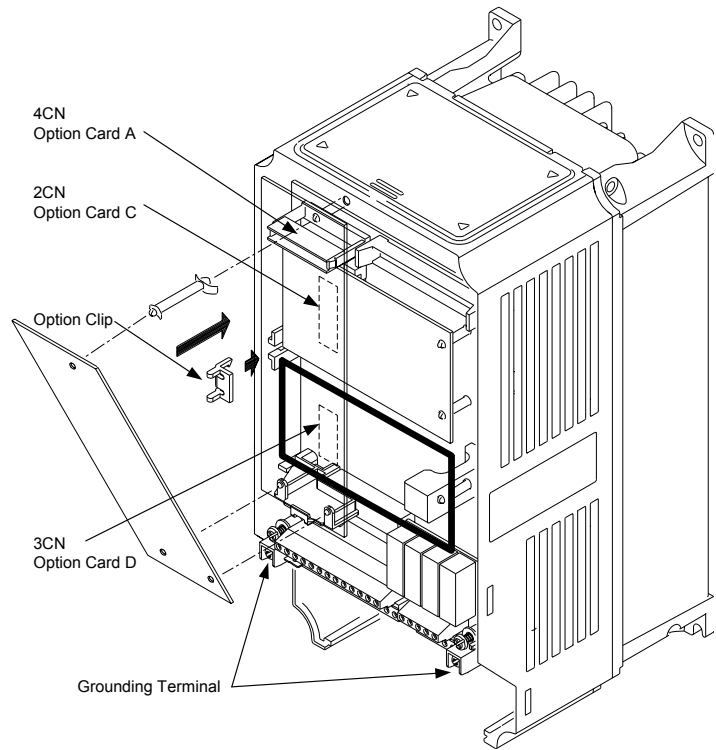

Figure 1. DO-02C Option Card Installation
5. **Option Card Installation:** See Figure 1. Position the option card above the control board's 3CN connector and gently press the card into place.